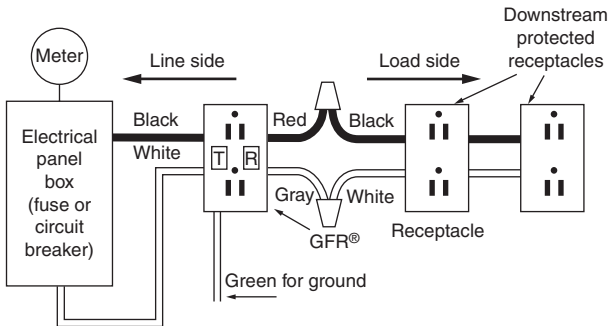

FIGURE 2-6. Wiring diagram for GFR that protects other downstream receptacles.
When a GFR that protects more than one outlet is tripped, it takes all of the outlets it services off the line. This can lead to some problems. For example, a GFR located in an upstairs bathroom may also protect an outside outlet and a downstairs bathroom outlet. If someone tries to use the outside outlet and it doesn't work, he or she may not relate this malfunction to the GFR in the upstairs bathroom and may call the electrician unnecessarily. All that needs to be done in such a situation is to push the test (T) button on the GFR upstairs and then the reset (R) button to make sure the fault does not still exist; this puts the outlets back on line. Figure 2-6 shows typical wiring for a GFR that protects more than one outlet.